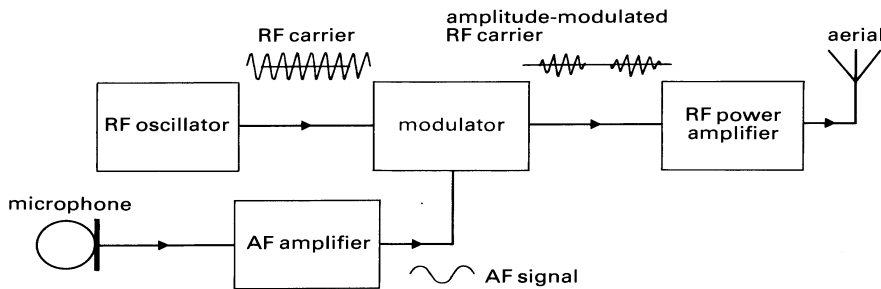

Fig. 3
Fig. 3 shows the block diagram of an amplitude-modulated (AM) radio transmitter. It 1) \_\_\_\_\_ of a radio frequency (RF) oscillator, a 2) \_\_\_\_\_, an audio frequency (AF) amplifier, and an RF power amplifier. The RF 3) \_\_\_\_\_ generates an RF 4) \_\_\_\_\_ wave which is fed into the modulator.